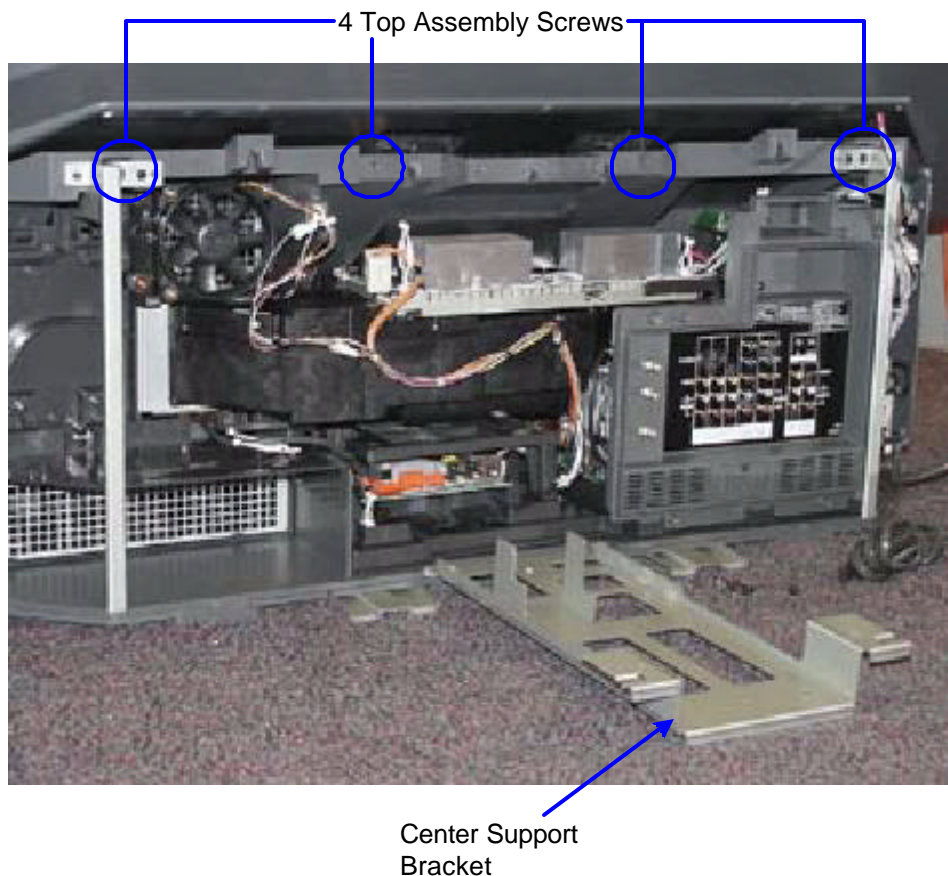

FIGURE 23-1 - REMOVE THE REAR CENTER SUPPORT BRACKET AND SCREWS
- c. Also from the back, remove the four screws securing the top assembly to the lower electronics (Figure 23-1).